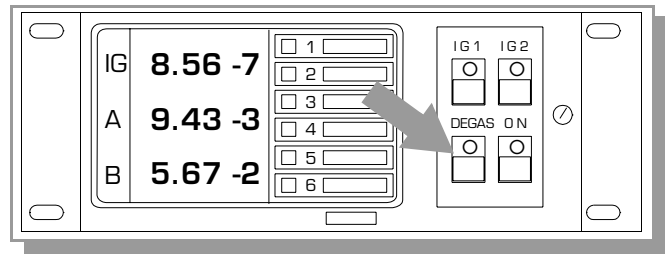

Figure 5-2 Control Unit Front Panel Showing DEGAS Button and LED Indicator.
5. To degas IG1 (IG1 must be on and the pressure within IG1 must be below 5×10^{-5} Torr), depress the DEGAS switch on the Control Unit (see Figure 5-2). When degassing with cathode 1 selected, both cathodes will operate in order to achieve full degas power and thorough cleaning of both cathodes.
6. When either cathode is nearing the end of its useful lifetime or is badly contaminated, the DEGAS switch LED indicator on the front panel will blink during degassing (see Figure 5-2). This is an indication that the cathode emission properties have deteriorated. This may be due to contamination which has temporarily "poisoned" the cathode coating, or to long term permanent erosion of the coating. If this condition does not disappear after a few days of operation at clean high vacuum or UHV, it is an indication that one or both cathodes are approaching their end of life. See Section 6.6 on page 6-6 for more discussion.